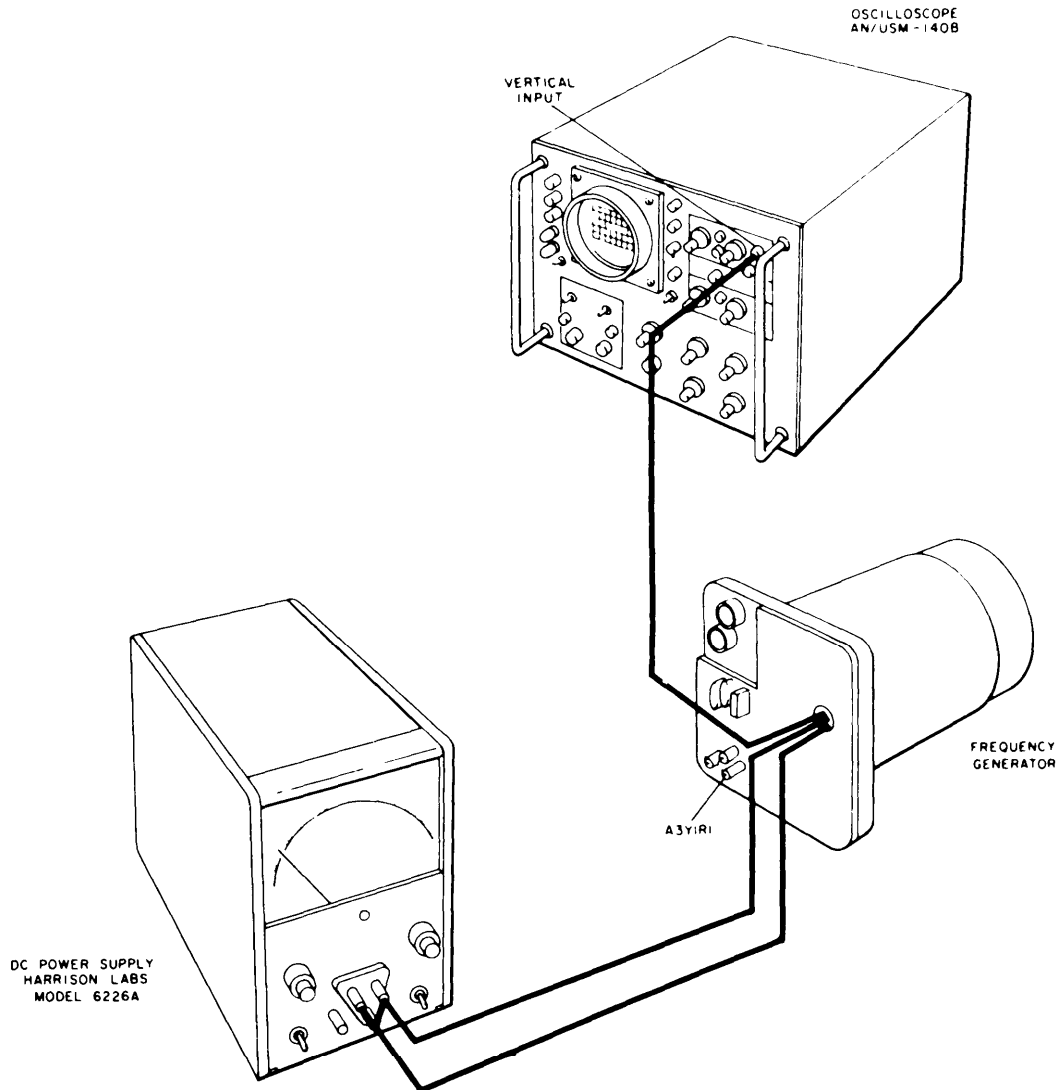

Figure 5-31. Selecting Resistor A3Y1R1, Test Setup
- (1) Follow the procedure of steps (1) through (8) of paragraph ae and separate the frequency generator from the crystal oven.
- (2) Connect frequency generator within the test setup shown in figure 5-31.